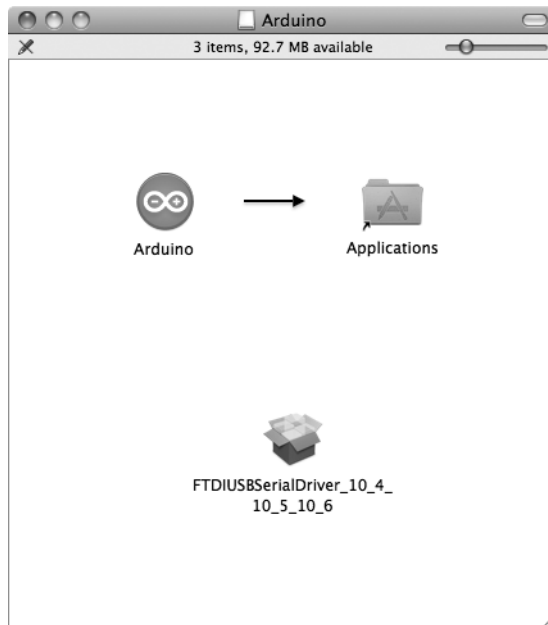

Figure 1-9: Your new Arduino IDE folder
3. Once it's finished downloading, double-click the file to start the installation process. You will then be presented with the window shown in Figure 1-9.
**NOTE** *The third file icon shown in Figure 1-9 needs to be installed only if you have an Arduino board older than the current Uno.*